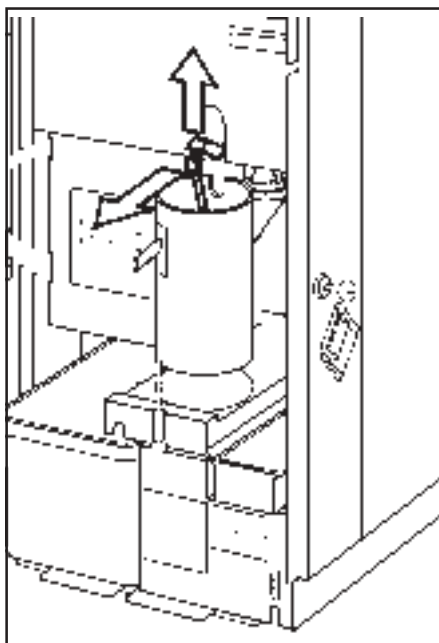

Fig.11: Removing the piston
2. Release the right-angled coupling between the piston and the connecting rod (see fig. 11).